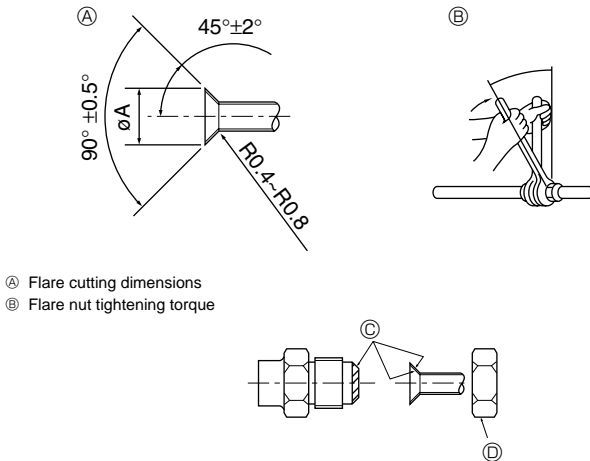

Fig. 4-1
- Apply thin layer of refrigerant oil to pipe and joint seating surface before tightening flare nut. Ⓐ (Fig.4-1)
- Use 2 wrenches to tighten piping connections. Ⓑ (Fig.4-1)
- Apply refrigerating machine oil over the entire flare seat surface. Ⓒ (Fig.4-1)
- Use the flare nuts for the following pipe size. Ⓓ (Fig.4-1)
Ⓐ (Fig. 4-1)
Ⓑ (Fig. 4-1)